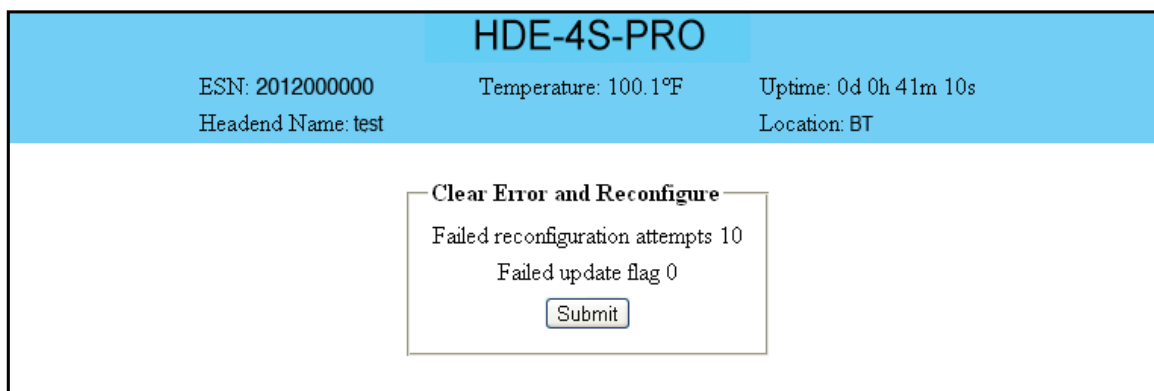

Figure 5.15
Warning: Care should be taken at this time, if misspelled characters or letters are typed by accident, or you have missed to type the bin command in Step 1, this could cause the HDE-4S-PRO Flash memory to be corrupted. The HDE-4S-PRO will try to reload the OS using the corrupted file ten (10) times before it displays the following screen (Figure 5.15). You can recover from this situation by repeating the procedure all over again from Step 1 above.